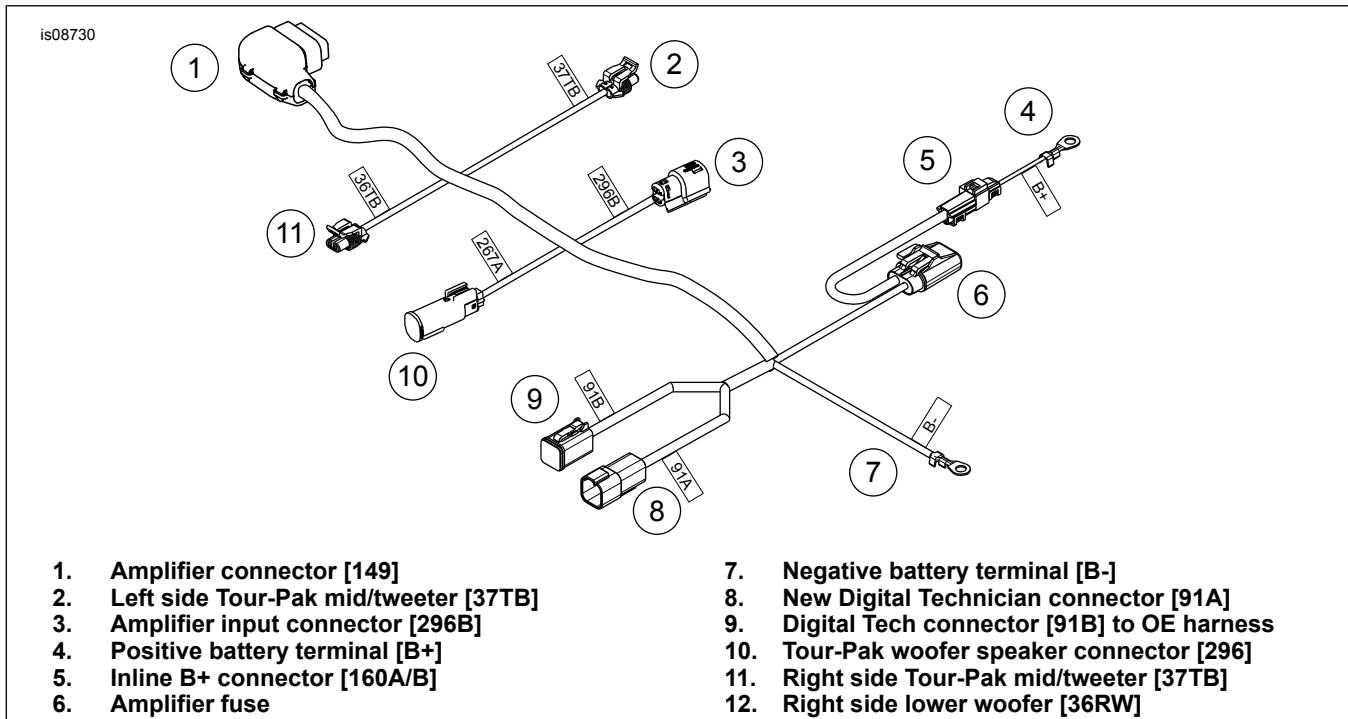

Figure 4. Main Amplifier Harness
- See Figure 4 and Main Amplifier Schematic ( Figure 7 ). Begin routing the amplifier harness from the large 23-way connector [149] (1), moving forward on the vehicle. The large connector **does not fit** through narrower passages.
- Route the remainder of the harness forward on the vehicle through the space between the Tour-Pak support (3) and fender (4).
3. See Figure 4 and Main Amplifier Schematic ( Figure 7 ). Install plug tether over wires. Re-pin connector. Plug in socket connector [91B] on the amplifier harness (6) to connector [91A] under the seat.